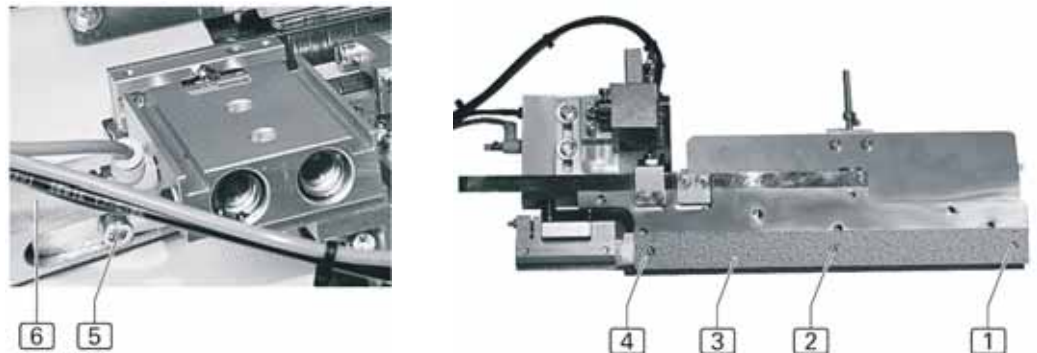

fig. 11
**fig. 11:** Unscrew left and right clamp side from clamp arm [6]. Remove fastening screw [5] and take off clamp side. Rubber feed strip [3] is fastened to the bearing plate with three screws [1], [2] and [4]. Remove the screws, insert a new rubber strip and refasten.